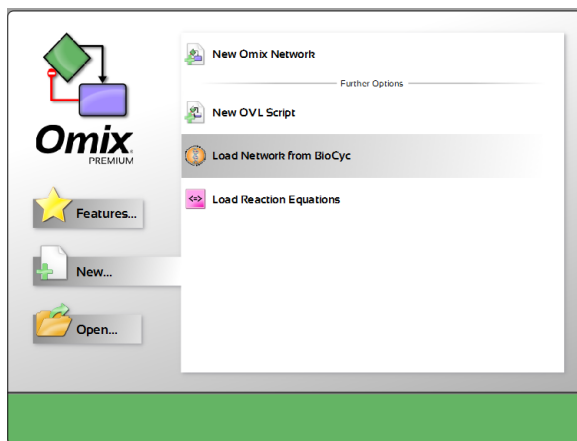

Figure 64 Create a new document in Omix Premium
- Click **New** in the *Document Area* (Figure 64).